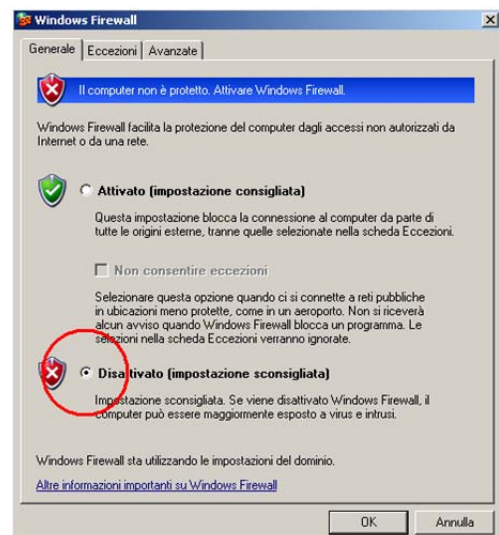

Figure 4.e - Disabling Windows Firewall
5. Create a new "Site Manager" (Figure 4.f):